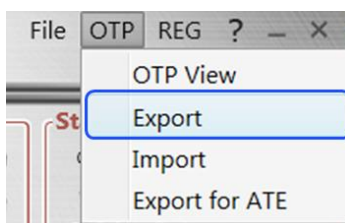
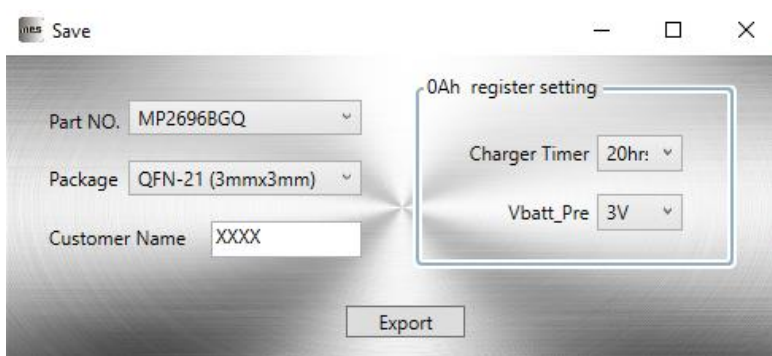

Figure 9: “Export” in the Drop-Down Menu
Figure 10: Export the New Configuration
4. To change a parameter, select a value from the corresponding drop-down menu. Ensure that all the parameters are populated before exporting the file. To export the new configuration, select “Export” from the drop-down menu, then click the “Export” button (see Figure 9 and Figure 10).